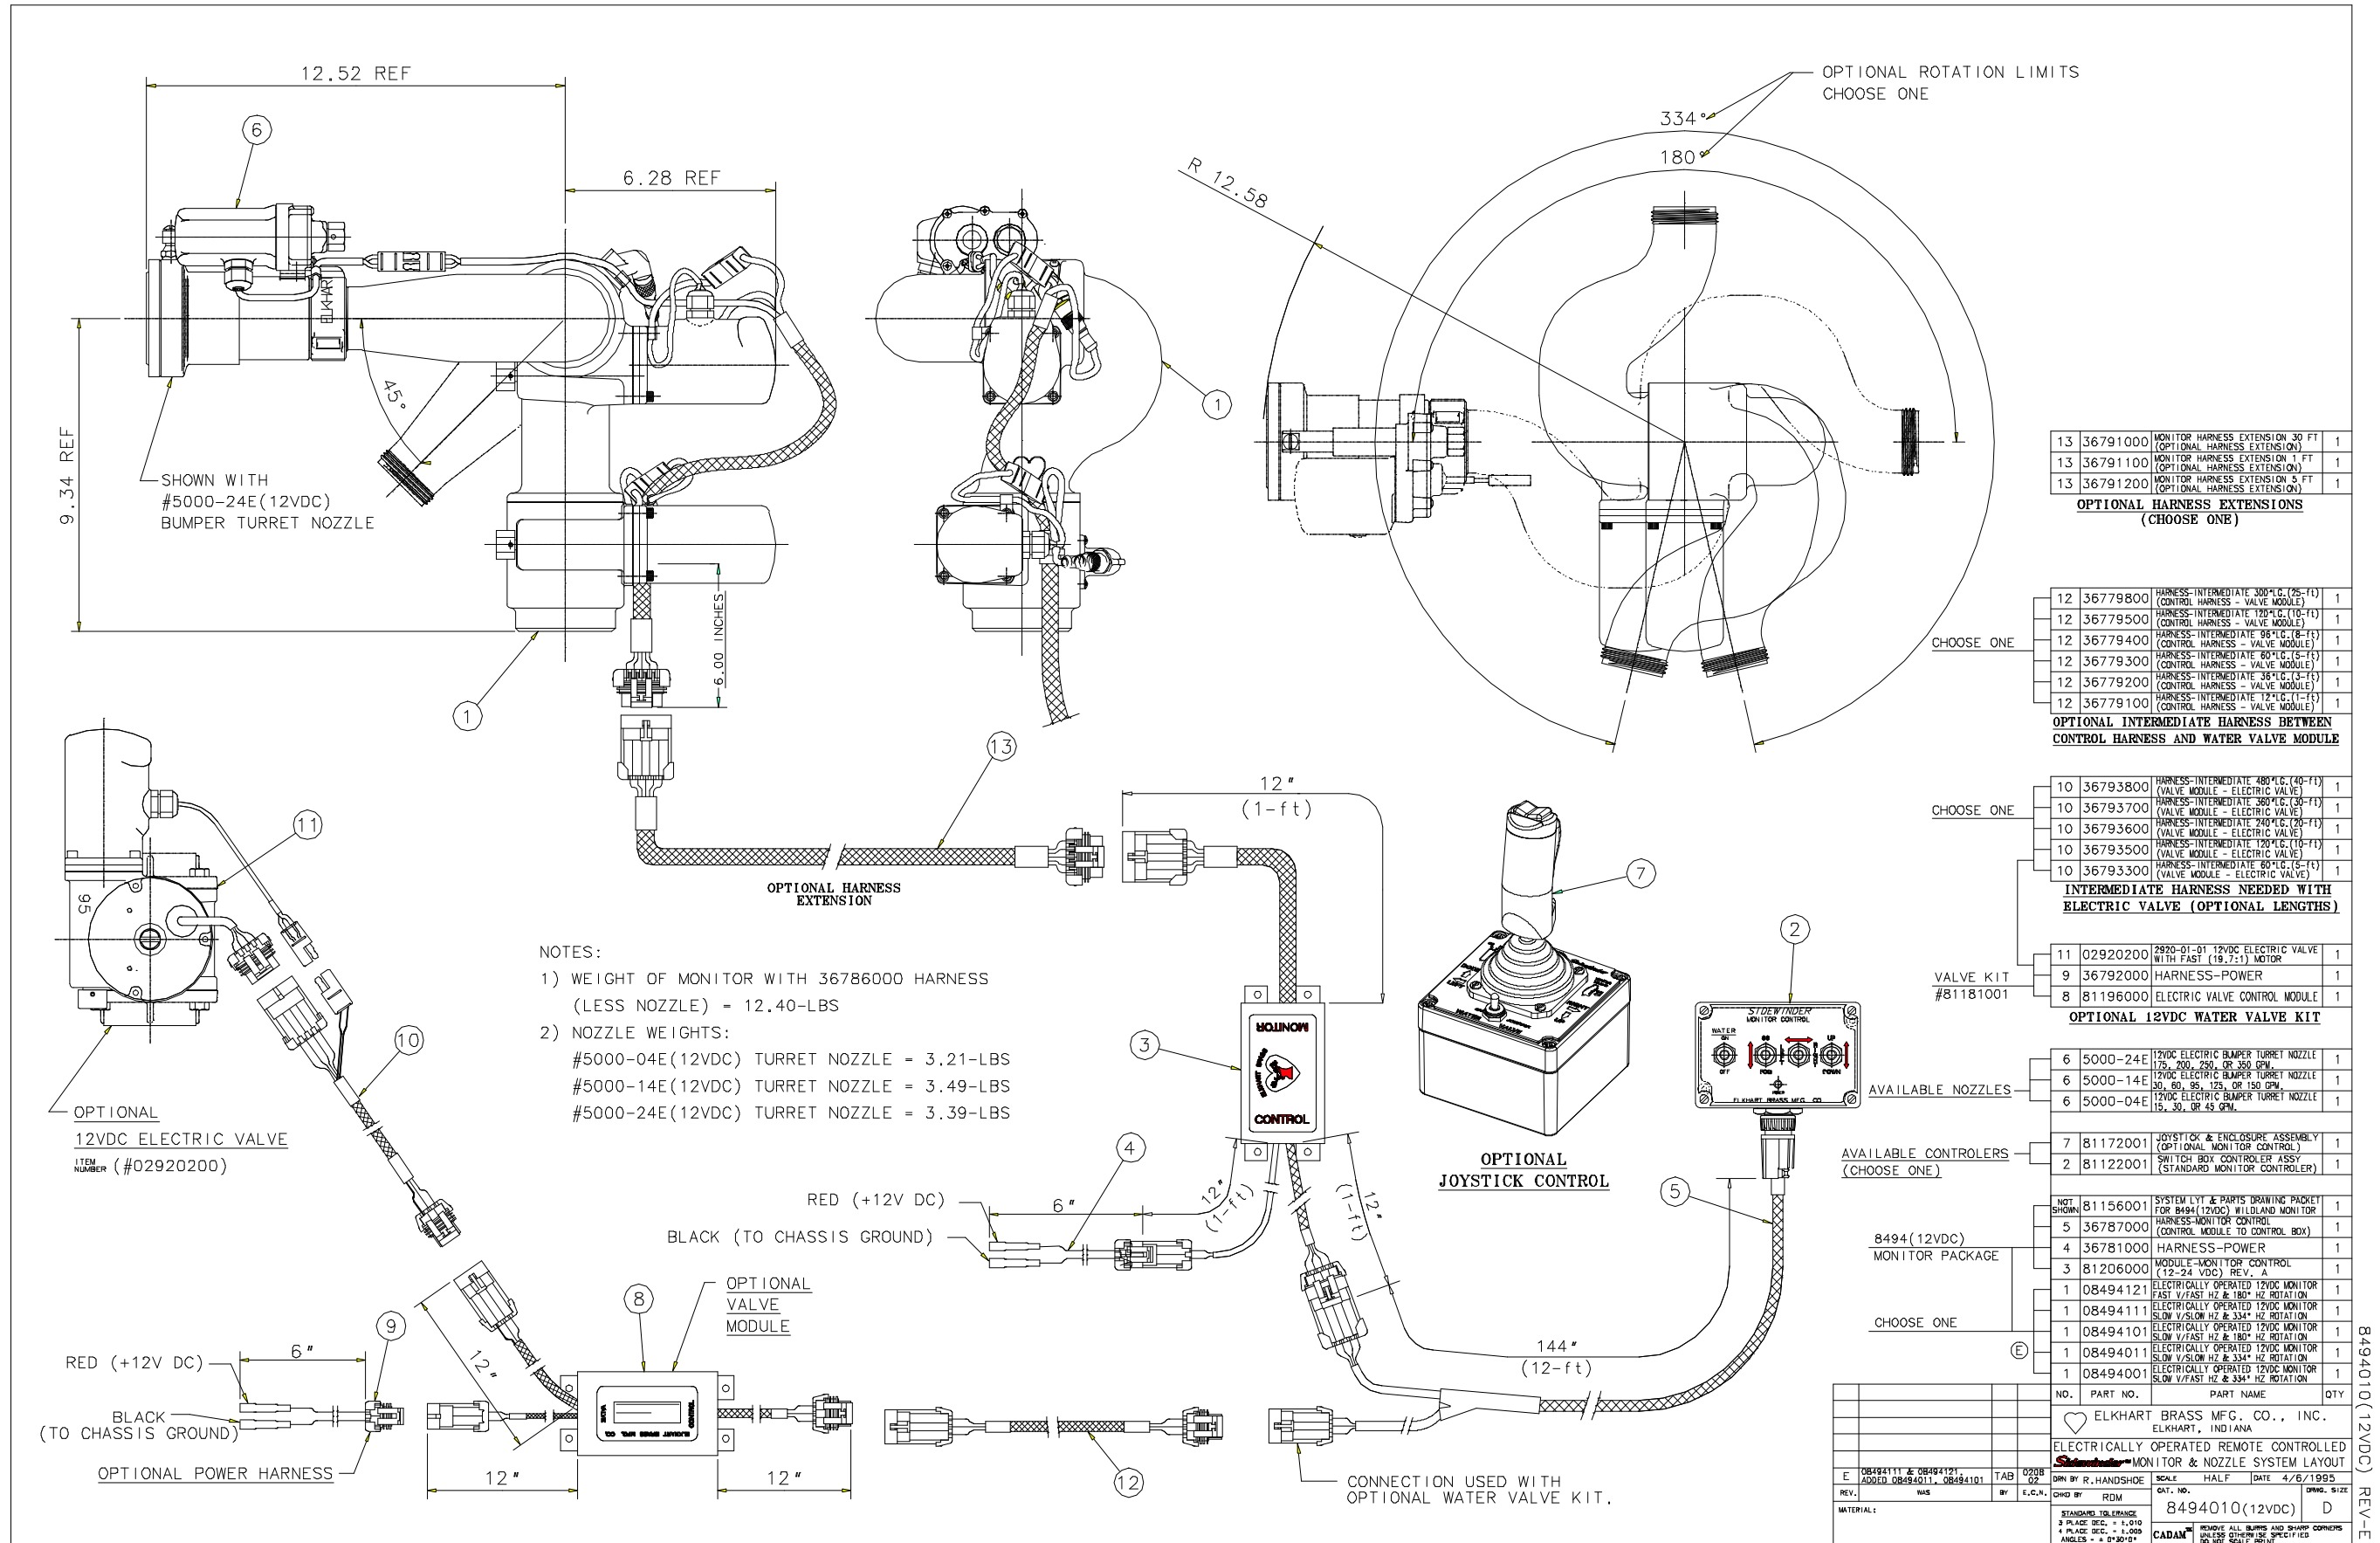

Figure 16
- 5) Reconnect the electrical connections according to Figure 16 and Figure 17. Check all of the electrical connections to make sure they are tight. Allow enough slack in the monitor harness to permit travel to the limits allowed by the controller without straining the wires.